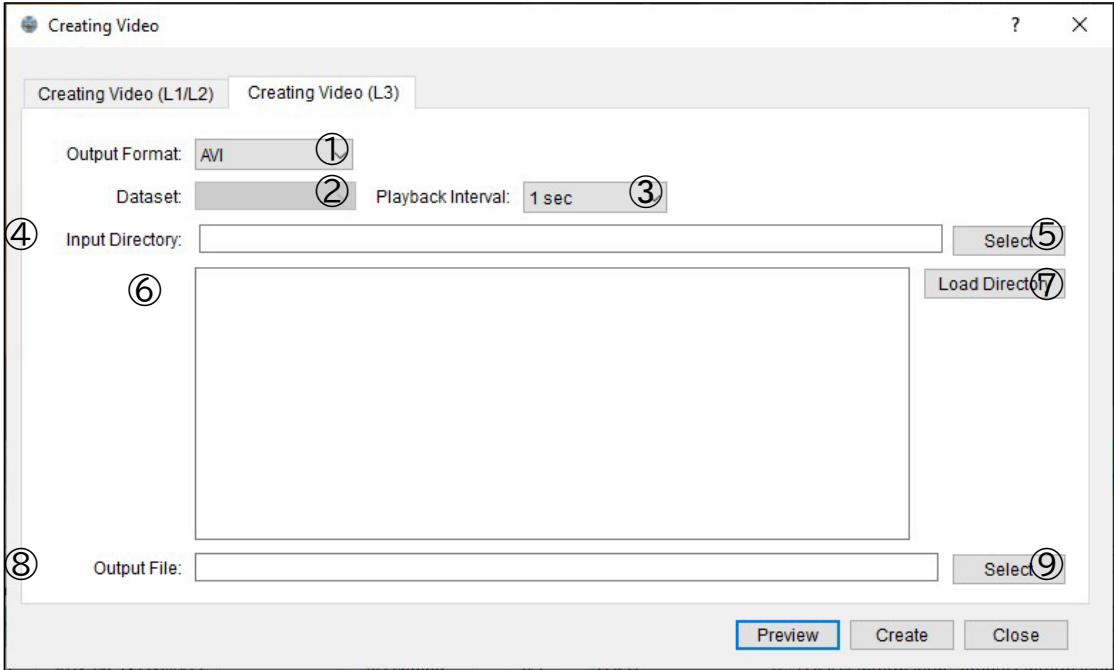

Figure 11-10 Video Creation Screen (L3)
Table 11-2 provides explanations and actions for items ① to ⑨ described in Figure 11-10.